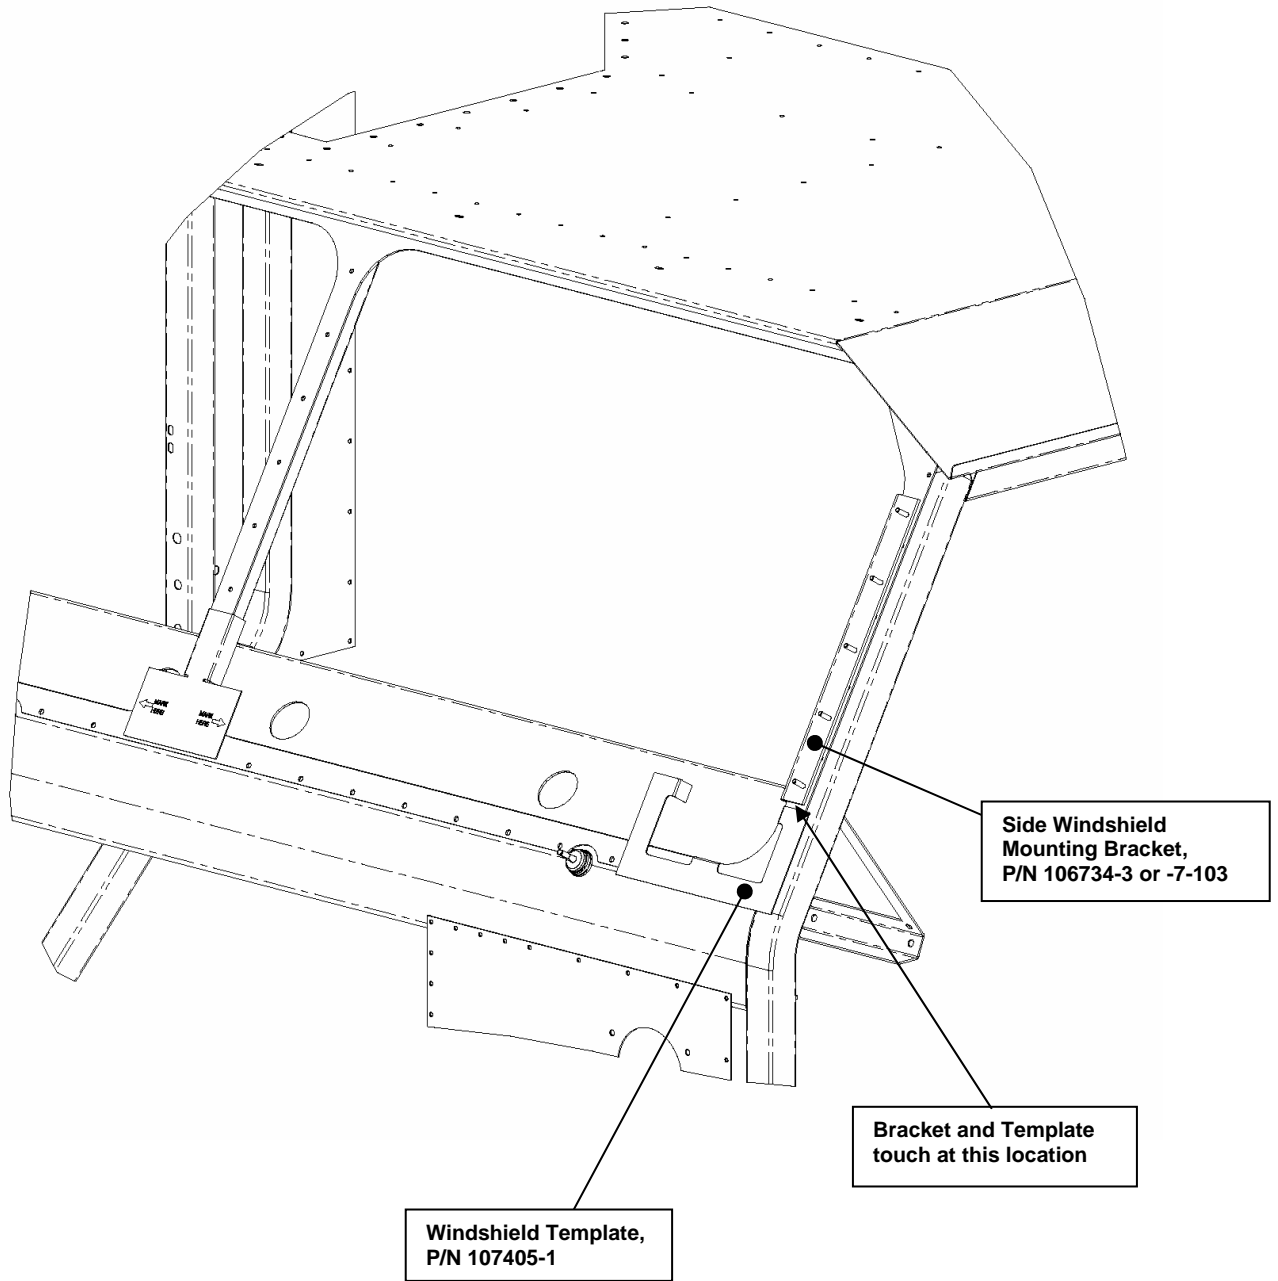

Figure 15. Windshield Bracket, Side Mounting.
- c. Place the Windshield Template (P/N 107405-1) on the vehicle, as shown in Figure 15. Place the Windshield Bracket (P/N 106734-3 or -7-103) on top of the template and against the window frame (see Figure 15). Once the bracket is located, tighten the upper and lower bolts so that the bracket clamps to the window frame of the vehicle. Do not tighten all of the bolts at this time, as adjustment may be required in the next steps. Using the same Template, install the other Windshield Bracket on the opposite side of the vehicle window frame. Remove the Template from the vehicle when complete.